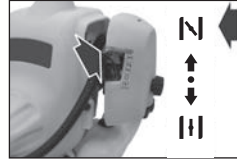

Fig. 9C
2. Your unit is designed with a 3 position choke: FULL CHOKE "N", HALF CHOKE ":", and RUN "III". Move choke lever to FULL CHOKE "N" position (Fig. 9C).